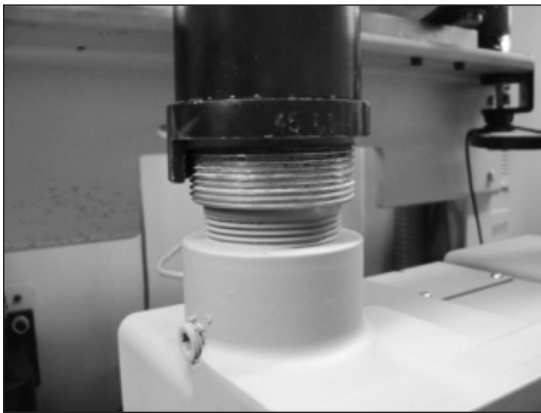

Figure 10.10 - SNAP connections properly fitted to meter
1. Install the meter on the prover table and adjust the meter arms to fit the appropriate height and width of the meter as shown in Figure 10.10. On the Series III prover, extensions are required for the meter connections due to shorter height of the meter. Utilize the correct meter connections per what is installed on the meter. (Example: If you ordered 45LT connections on the meter use the 45LT swivels on the prover.)